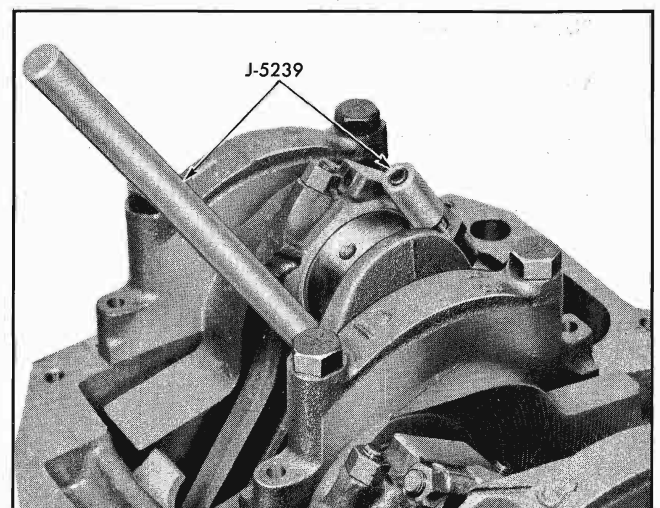

Fig. 6-62 Set J-5239 Positioned for Removal of Connecting Rod Bearing Shell
5. Install connecting rod bolt guide set J-5239 on connecting rod bolts (Fig. 6-62).